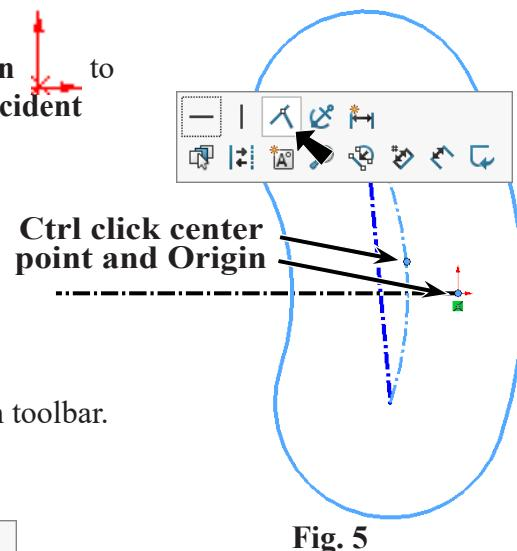

Fig. 5
Step 9. Ctrl click centerpoint of slot centerarc and Origin to select both. Release Ctrl key and click **Make Coincident**  on the context toolbar, Fig. 5.